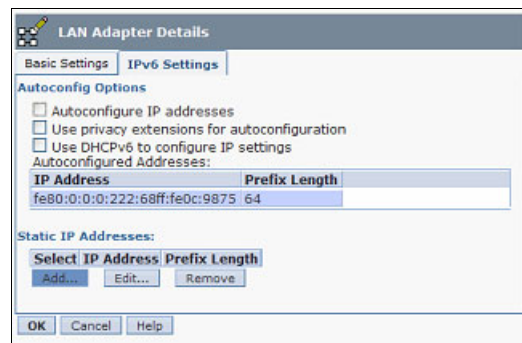

Figure 8-11 Web UI IPv6 settings window
- Click **Add** to add a static IP address to this adapter. Figure 8-11 shows the LAN Adapter Details window where you can configure the IPv6 values.